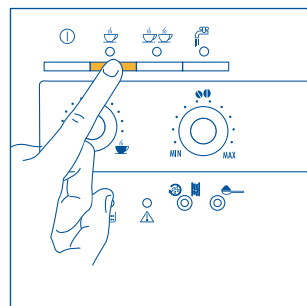
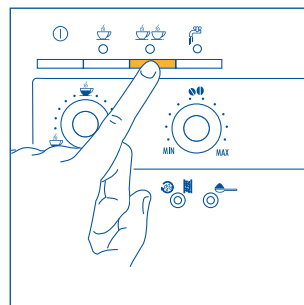

Fig. 12
Fig. 13
- 5) Press the ☕ button (Fig. 12) to make one cup of coffee or the ☕☕ button (Fig. 13) to make 2 coffees. *At this point the machine grinds the beans, runs a short pre-infusion cycle, a pause and then completes the delivery.* Once the desired quantity has been reached, the machine automatically stops delivering the coffee and discharges the grounds into the special container.
- 7) To switch the machine off, press the ① button. (Before switching off, the machine automatically runs a rinse cycle: a little hot water will come out of the spouts and will be collected in the drip tray underneath - be careful, to avoid being scalded). If the machine is not switched off using the ① button, it will switch itself off and run a brief rinse cycle 3 hours after the last operation
NOTE 4: while the machine is making the coffee, the delivery can be stopped at any time by pressing the ☺ button (Fig. 12) or ☺☺ button (Fig. 13), as previously selected.
NOTE 5: as soon as delivery is complete, to increase the quantity of coffee, simply press and hold the ☺ button (Fig. 12) or ☺☺ button (Fig. 13), as previously selected, until reaching the desired quantity (this operation must be performed within 3 seconds from the end of the delivery of the coffee from the spouts).